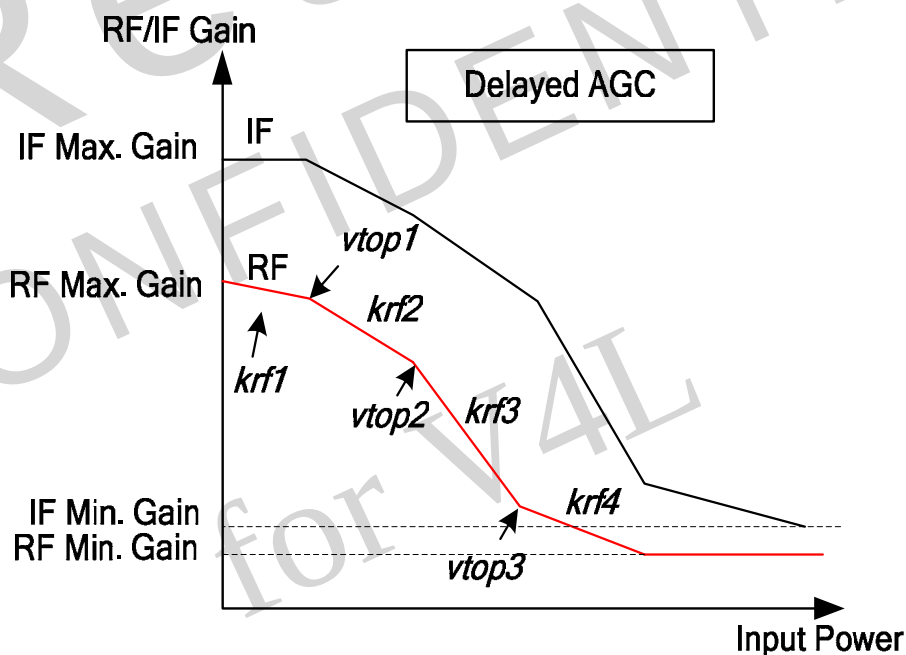

Figure 4. Delayed AGC
In the RTL2832U, the RF_AGC and IF_AGC pins control the Radio Frequency (RF) and Intermediate Frequency (IF) VGA gain of the tuner. In some applications, the RTL2832U only controls IF VGA, and the tuner controls RF VGA. In some tuners, only the RF AGC is needed. The RTL2832U uses delayed AGC to control RF and IF AGC. Gain distribution for RF and IF VGA is adjusted by registers ' v_{top} ' and ' k_{rf} '. The delayed AGC method is shown in Figure 4. RTL2832U has three v_{top} and four k_{rf} register values to be programmed by user.